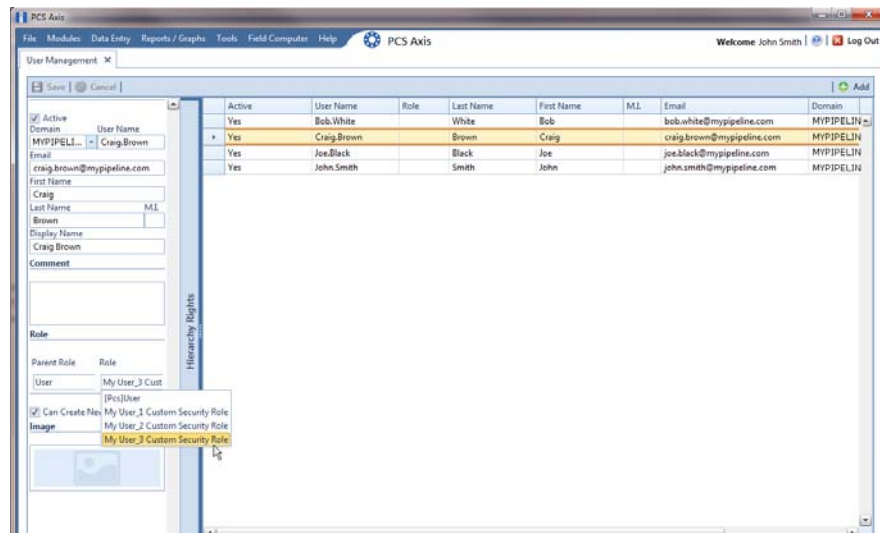

Figure 3-24. User Management
- 1 Click **Tools** > **User Management** to open the *User Management* window (Figure 3-24).